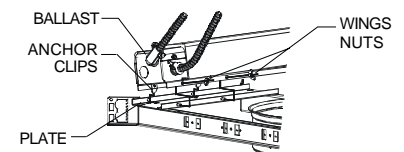

FIG. 8
6. **For F-Can ballasts mounted to mounting plate (Fig. 8)**